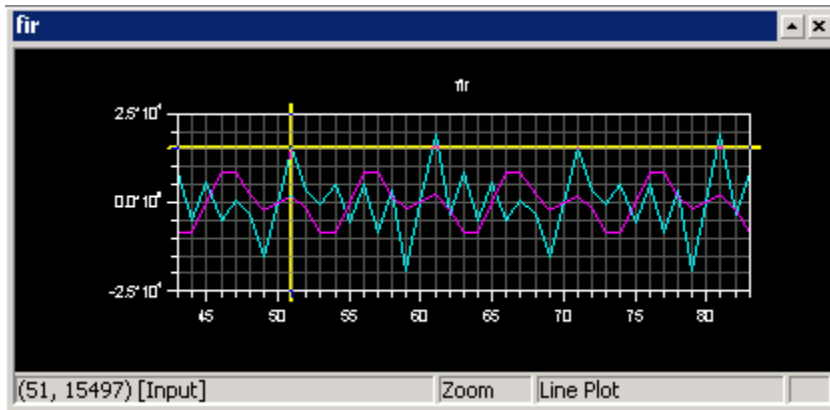

Figure 2-31. Plot Window: Using the Data Cursor Feature
3. Right-click inside the plot window and choose **Data Cursor** from the popup menu. Then move through the individual data points in the current data set by pressing and holding the Left ($\leftarrow$) and Right ($\rightarrow$) arrow keys on the keyboard. The value of the current data point appears in the lower-left corner of the plot window, as shown in Figure 2-31.